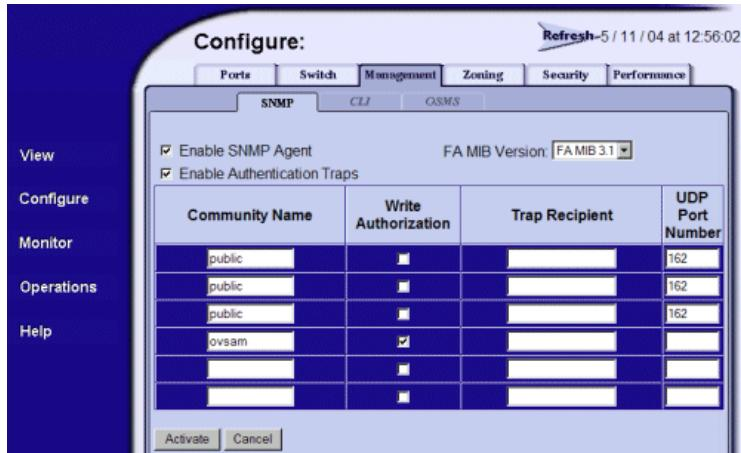

Figure 45: Management page—SNMP tab
1. Choose **Configure > Management** to displays the **SNMP** tab (Figure 45).